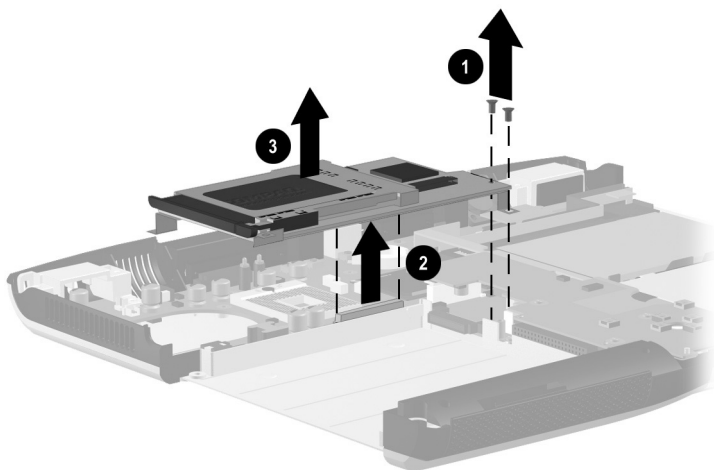

Figure 5-25. Removing the PC Card Assembly
2. Remove the two PM2.0 × 5.5 screws ❶ that secure the PC Card assembly to the base enclosure (Figure 5-25).
3. Lift the rear/right corner ❷ of the assembly to disconnect it from the system board.
4. Remove the PC Card assembly ❸.